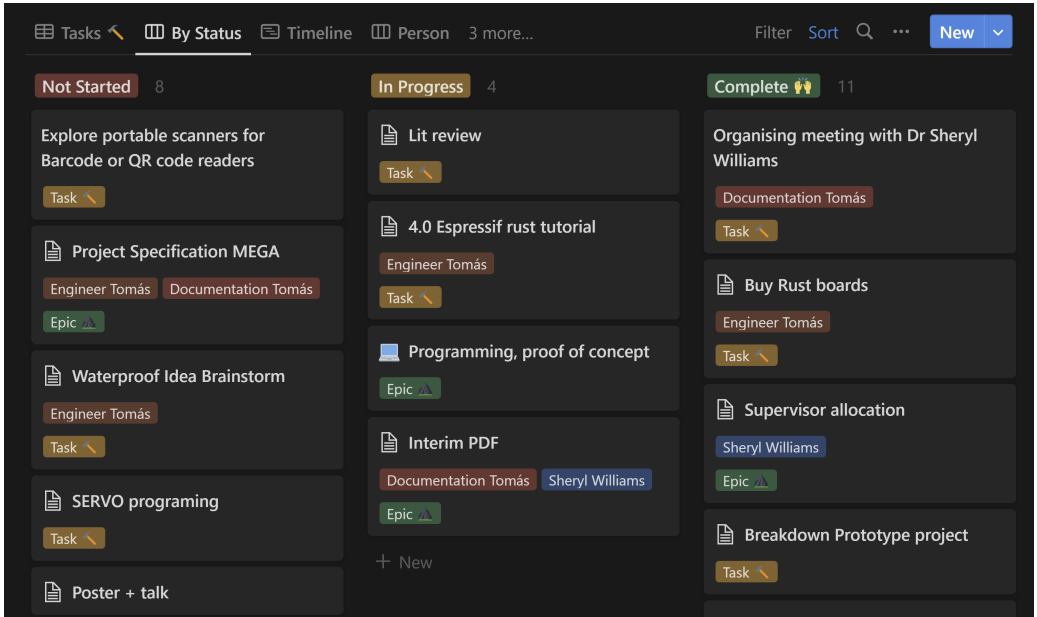

Figure 3: Notion kanban view
**Status view** is a kanban style project management technique. The tasks are separated by "Not started", "In progress" and "Complete". Used infrequently but useful when needing to track the task progression and completion. [Fig. 3]